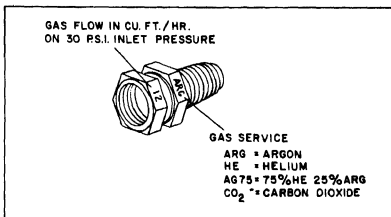

Figure 3. Flow Adapter Markings
b. Select the flow adapter best suited for your specific needs from Table II. It is recommended that a series of adapters be kept on hand so that all job requirements can be met. Flow adapter markings are shown in Figure 3.